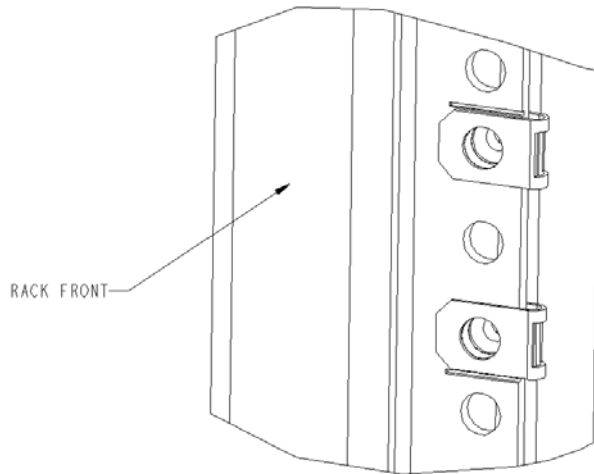

Figure 4. Installing the Tinnerman Clips (HP Rack)
- For an HP rack, install (2) M5 U-type Tinnerman clips for each of the front columns of the rack in the top and bottom positions of the three-hole EIA pattern as shown in Figure 4.